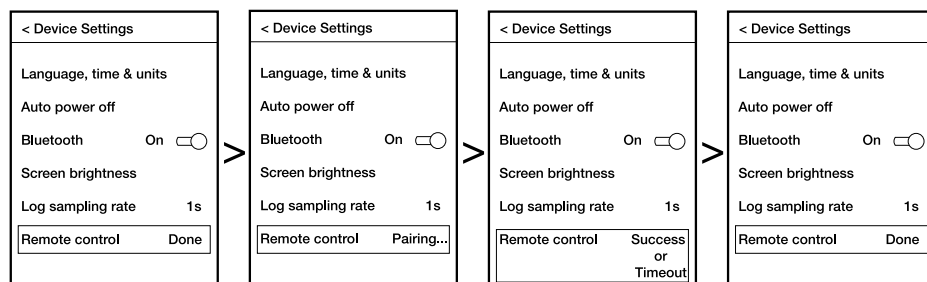

Figure 2: Pairing the TA93 with the DM266 in the Device Settings menu.
7. The DM266 will indicate 'pairing' as it searches for the TA93 (see Figure 2, below).